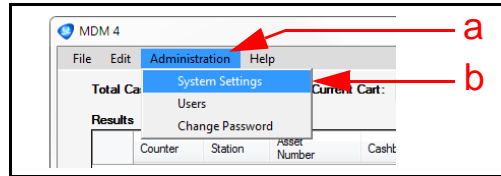

Figure 15 Select System Settings Menu 2
1. Click on the 'Administration' pull-down Menu (Figure 15 a) on the MDM4 Main Screen, then select 'System Settings' (Figure 15 b).